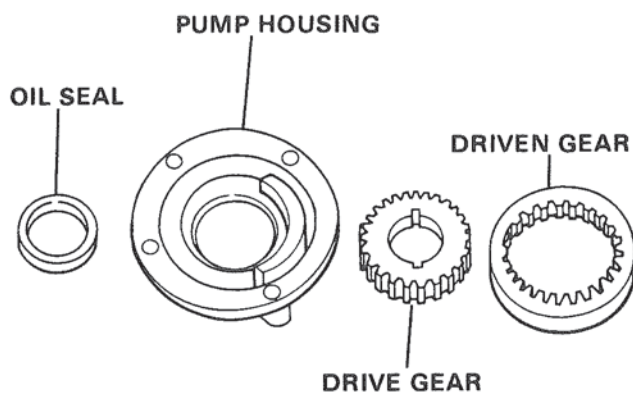

Figure 78. Front Pump Parts.
1. Collect the parts shown in Figure 78 and check carefully for the following:
1. Place previously assembled parts as shown in Figure 78, after inspecting the adapter face for dirt and obstructions.